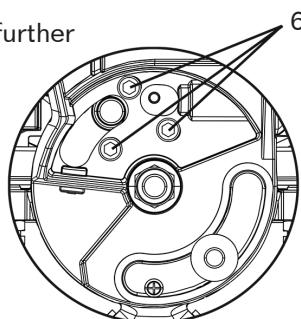

Fig. 11
90° (0°) Bevel Adjustment (Fig. 11, 12)
45° Right Bevel Positive Stop Adjustment (Fig. 11, 12, 13)
1. Loosen the bevel locking handle (1) and set cutting arm at 45° angle. (Fig. 11)
45° Left Bevel Positive Stop Adjustment (Fig. 11, 12, 13)